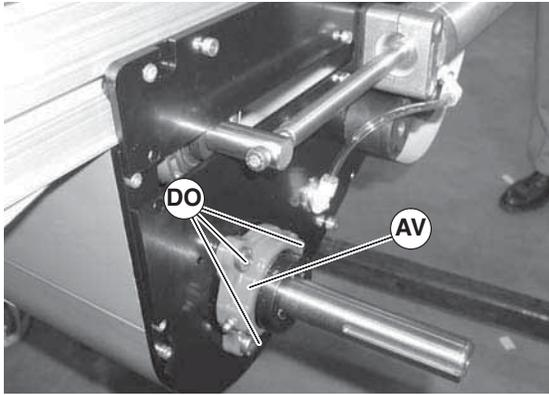

Figure 106
4. Remove the three (3) mounting screws (Figure 106, item DO).
5. Remove and replace bearing housing assembly (Figure 106, item AV).